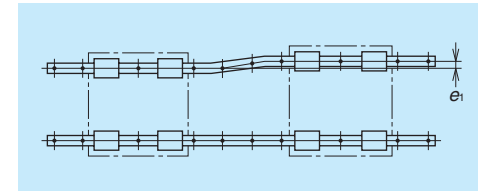

Fig. 10.5
- Figs. 10.5 and 10.6 are representing the mounting errors of e₁ and e₂. Their permissible values are shown in the description of "5. Installation" of the each series.